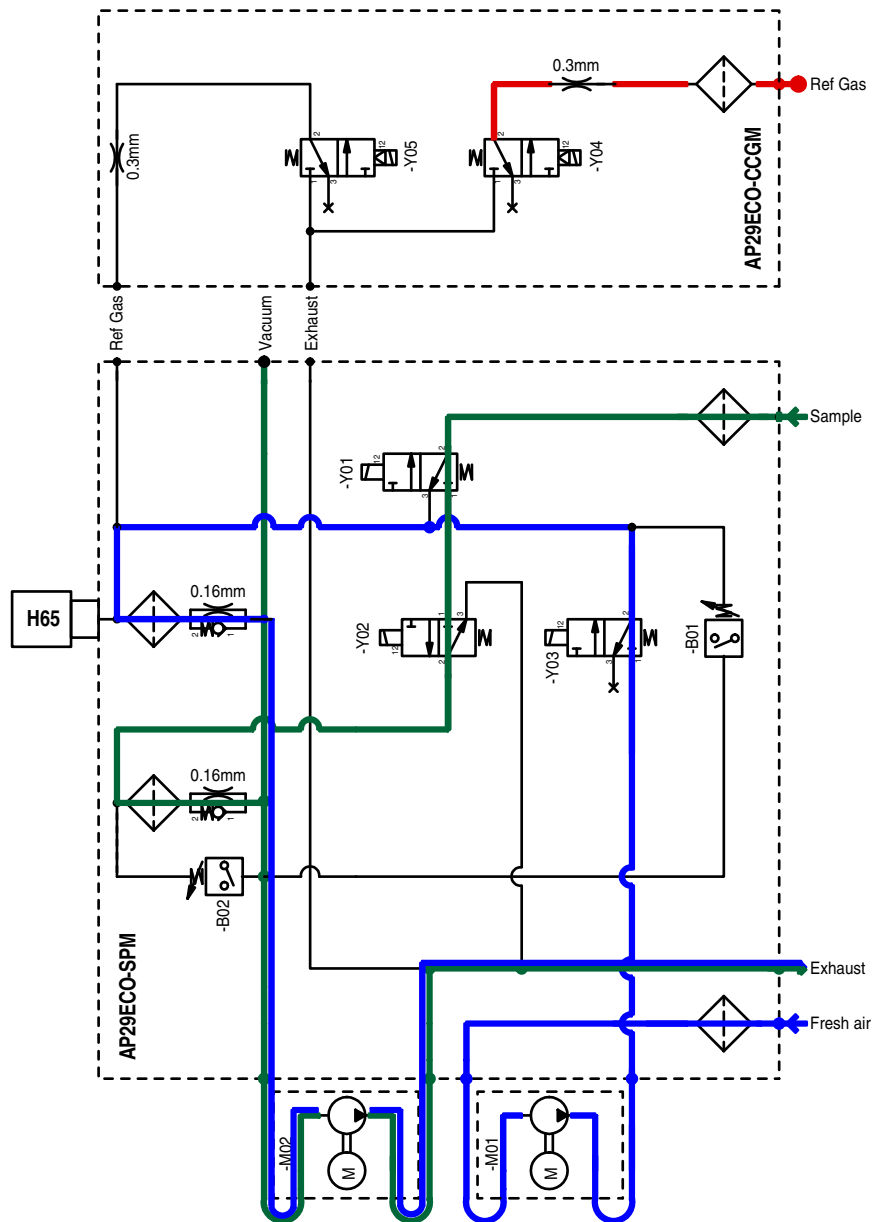

Figure 14 Purging after the measuring has been done.
There are two types of purging: (1) when a measuring has been done, Timer C (2) when the Purge Level has been passed. Purging after a measure period is shown in Figure 14.